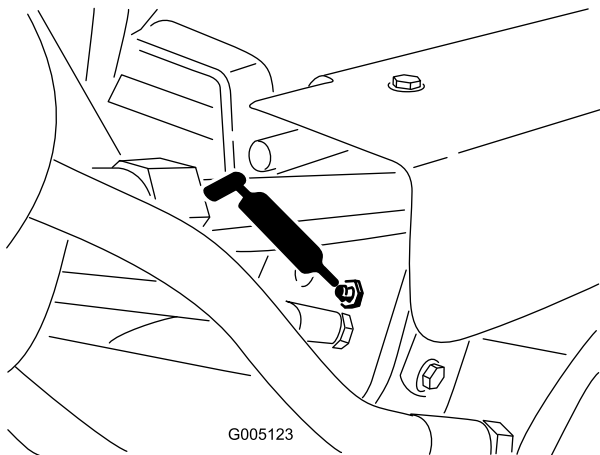

Figure 30
- Vérins de relevage (3) (Figure 30)